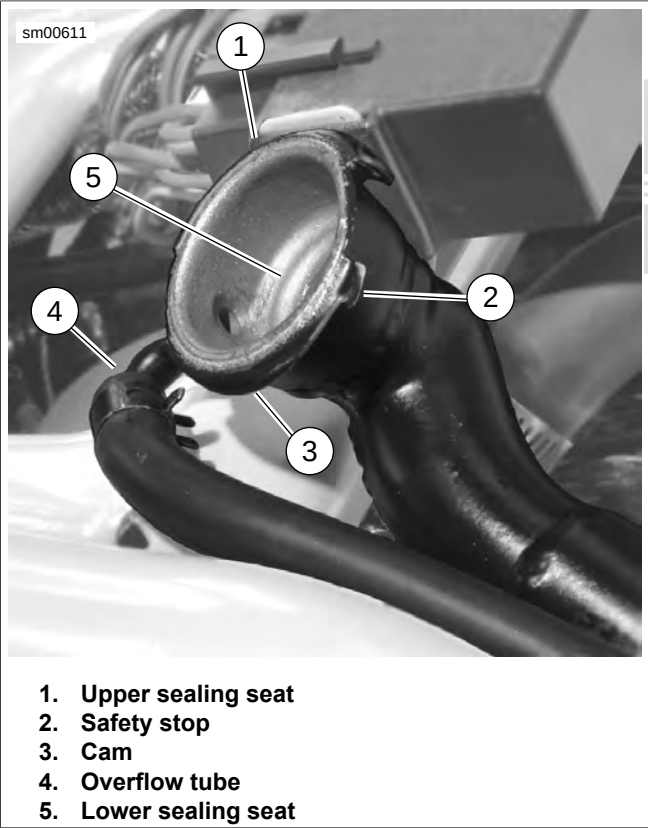

Figure 5-2. Filler Neck (typical)
1. See Figure 5-2. Using a cloth over pressure cap, turn cap 1/4 turn counterclockwise (CCW) to safety stop (2). Let pressure escape. Press down and turn cap to pass over safety stops and remove.
- See Figure 5-2. Clean and inspect filler neck, upper (1) and lower (5) sealing seats, overflow tube (4), and overflow bottle.